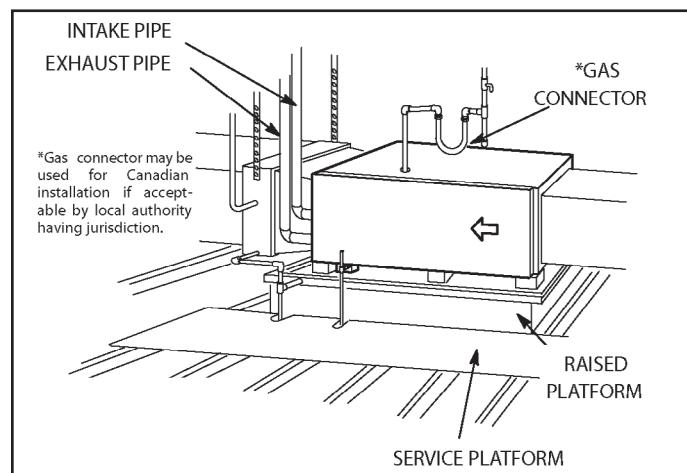

Figure 20.
This furnace may be installed in either an attic or a crawl space. Either suspend the furnace from roof rafters or floor joists, as shown in Figure 19, or install the furnace on a platform, as shown in Figure 20. A horizontal suspension kit (51W10) may be ordered from your distributor or use equivalent.
2. Construct a raised wooden frame and cover frame with a plywood sheet. If unit is installed above finished space, fabricate an auxiliary drain pan to be installed under unit. Set unit in drain pan as shown in Figure 20. Leave 8 inches for service clearance below unit for condensate trap.